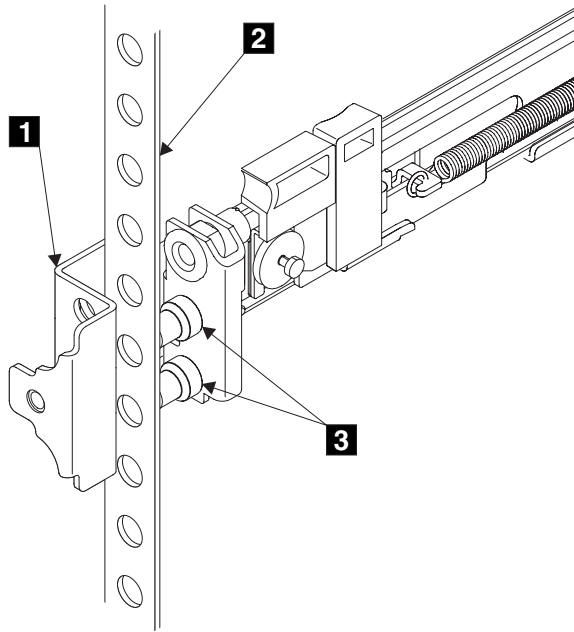

Figure 66. Installing the front end of the rail
6. Place the front end of the left rail in the rack cabinet. Align the top of the front bracket **1** (Figure 66 on page 80) with the required EIA marking that is on the rack.